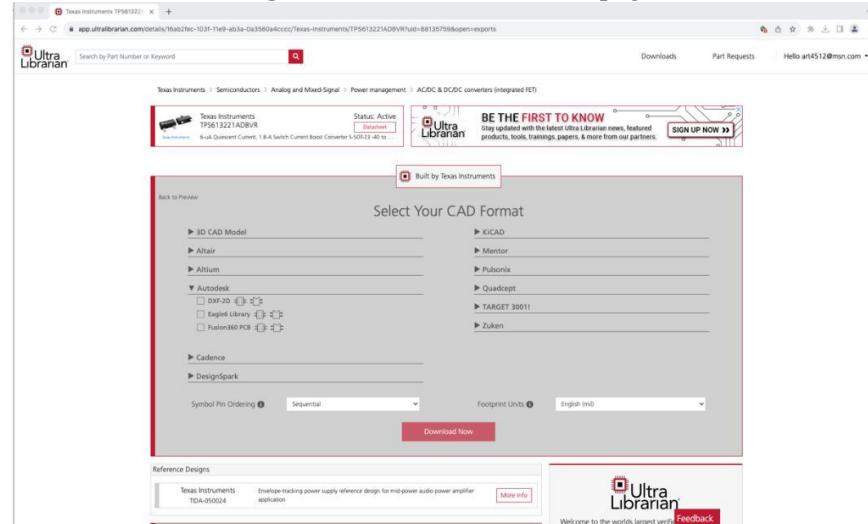

Figure 2: Ultra Librarian Webpage choosing Fusion360 as the output file format.
- 3.2** Select the appropriate part that the librarian found. A new webpage will open showing the expected schematic, footprint and 3D model (some applications can process, and display 3D assembled PCB), next select the “Download Now” option and a new window will open (Figure 2).